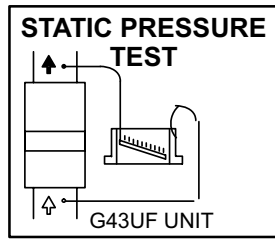

FIGURE 41
- 1 - Measure tap locations as shown in figure 41.